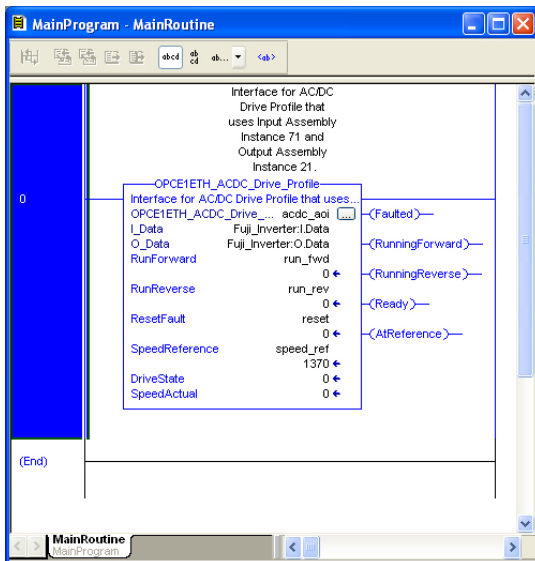

Figure 99: Configure AC/DC Drive Profile AOI
- 10) Edit the add-on instruction according to Figure 99.